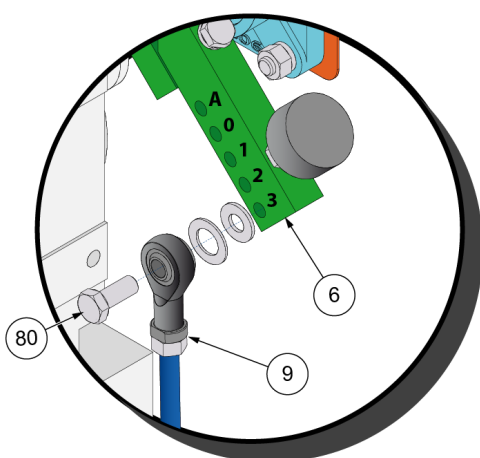

Fig. 1
- Note down the position of the upper location of the spring (9) on the hub (6) ⇒ Fig. 1.